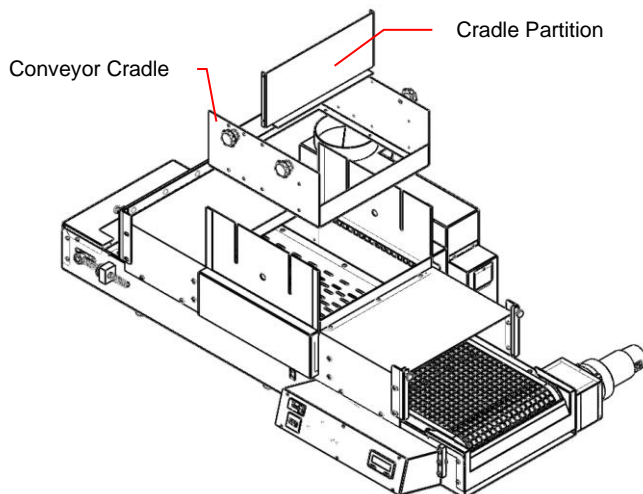

Figure 4. Remove Cradle Partition
4. If you are using a Cradle Partition and/or Cradle Plate, remove the existing Cradle Partition and Cradle Plate from the Conveyor Cradle by removing all screws (provided Hex Wrench may be used) (Figure 4).